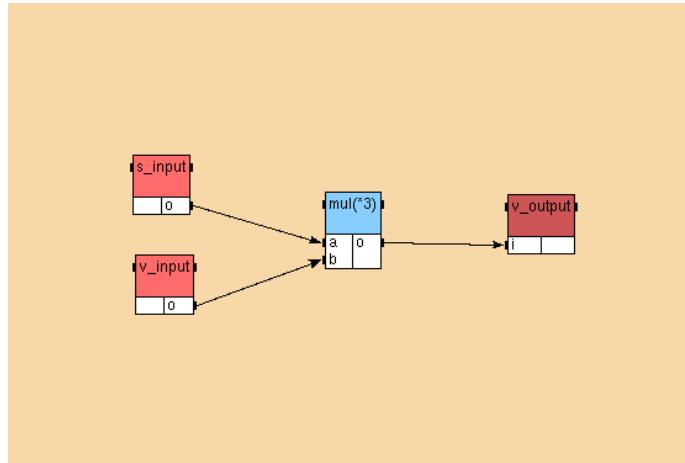

Figure 4.5: `AlgorithmMain2` of the **Example 4**
- create dependences between the references in order to obtain the main algorithm (*cf.* figure 4.5);